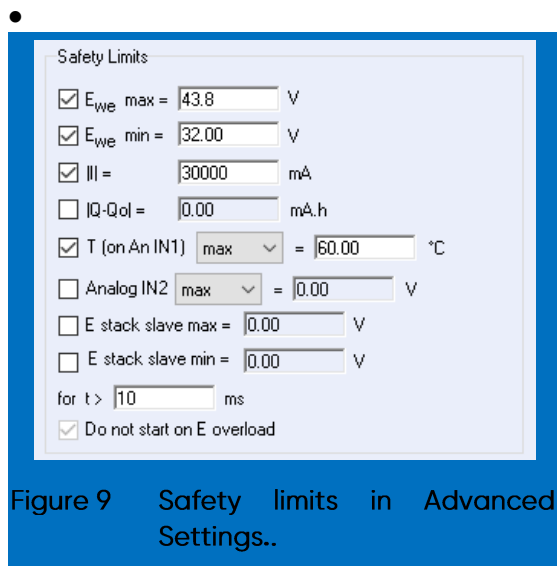

Figure 9 Safety limits in Advanced Settings..
- Safety limit in EC-Lab[®] has to be set appropriately (Fig. 9). It is highly recommended to set the voltage range, maximum current and maximum temperature.